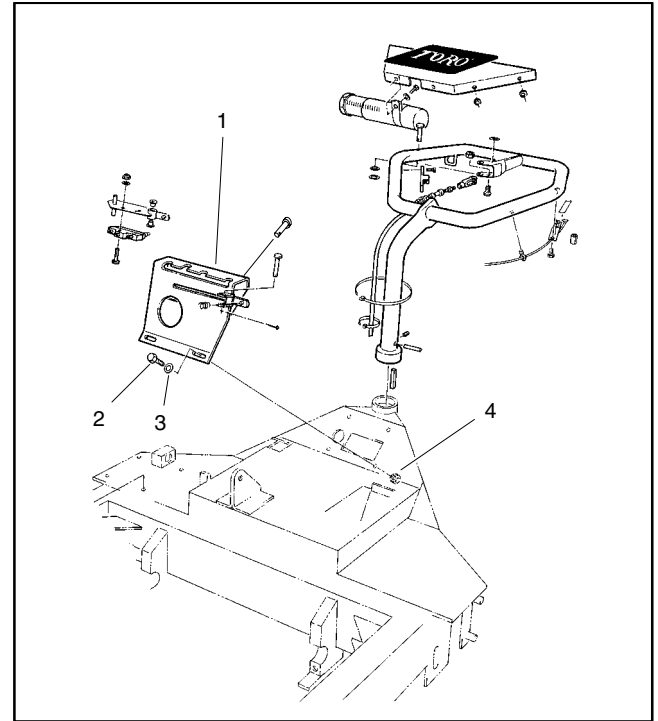

Figure 1
4. Loosen four (4) cap screws, flat washers and lock nuts that secure shift tower to machine (Fig. 1).
6. Secure shift tower in position with four (4) cap screws, flat washers and lock nuts.